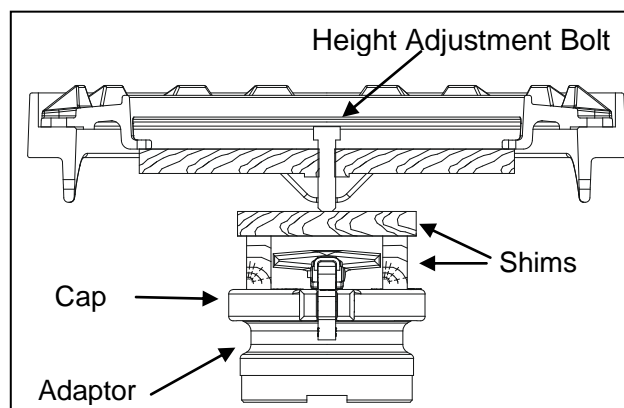
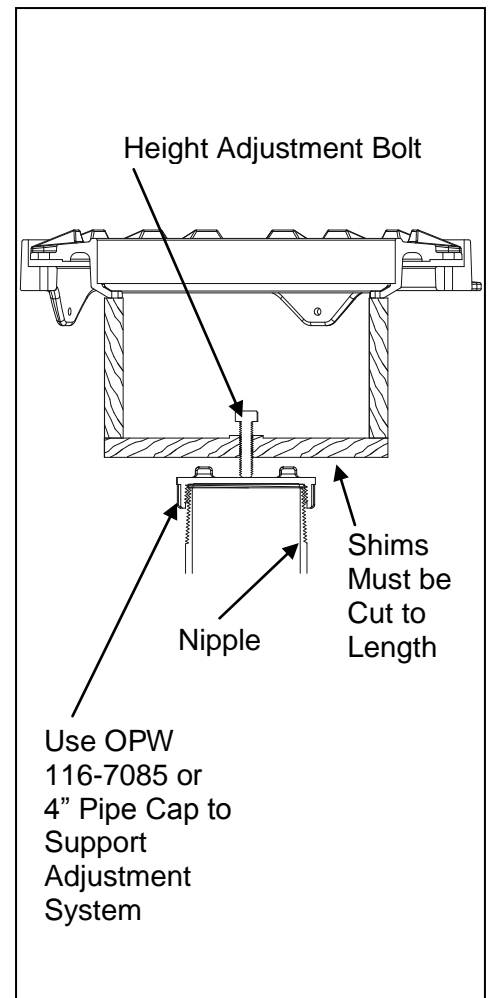

Figure 4
Figure 8
Step 8: (See Figure 4 & 8)
If necessary, the height of the spill container can be adjusted by $\pm 1"$ (2.5cm). If it is necessary to increase height, install adjusting system (sold separately, part number 203931) beneath tabs on mounting ring. See Figure 4 for standard cover models and Figure 8 for sealable cover models. Add shims as needed and adjust with screw (shims must be cut to size for sealable cover models).